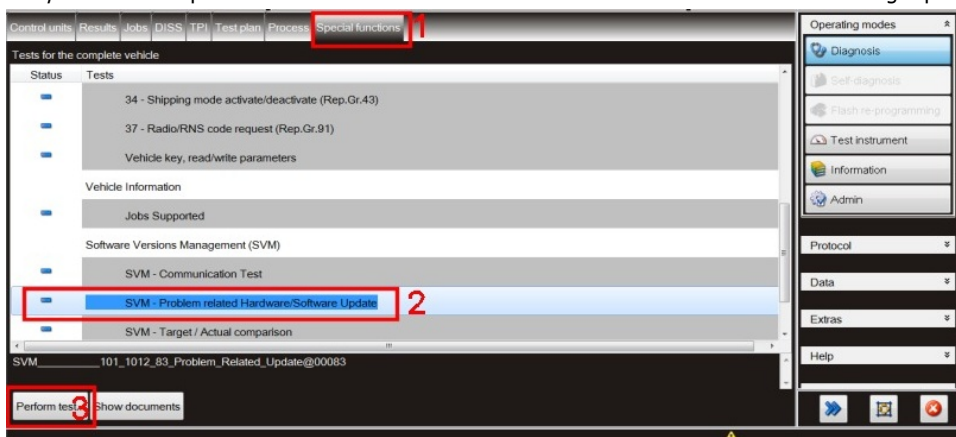

Figure 1
8. Select Special functions (1), Select SVM – Problem related Hardware/Software Update (2), Select Perform test (3) (see Figure 1)